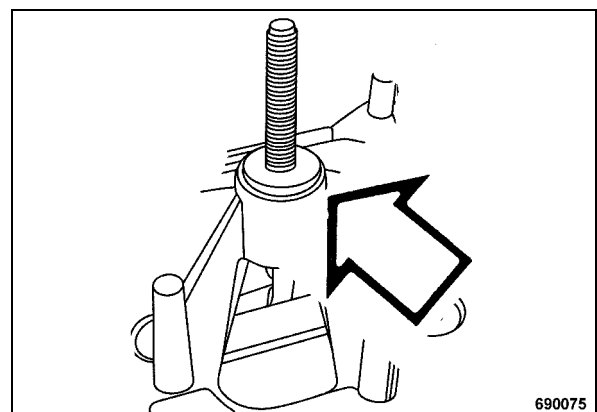

Fig. 73
- Check the rubber seal, if necessary replace the damaged rubber seal (Fig. 73).